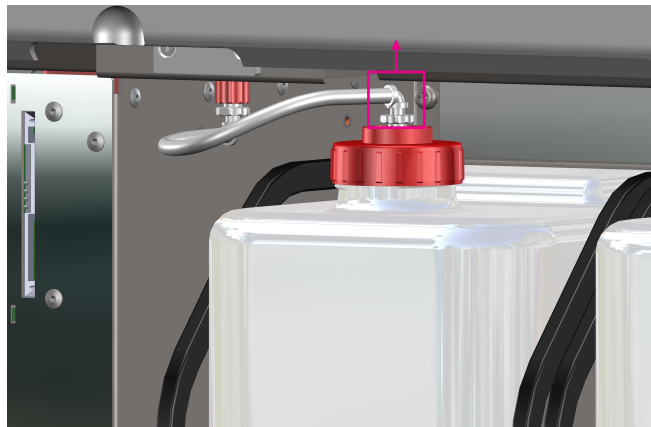

Figure 56
4. Disconnect the LUER connector from the waste bottle screw cap (Figure 56).